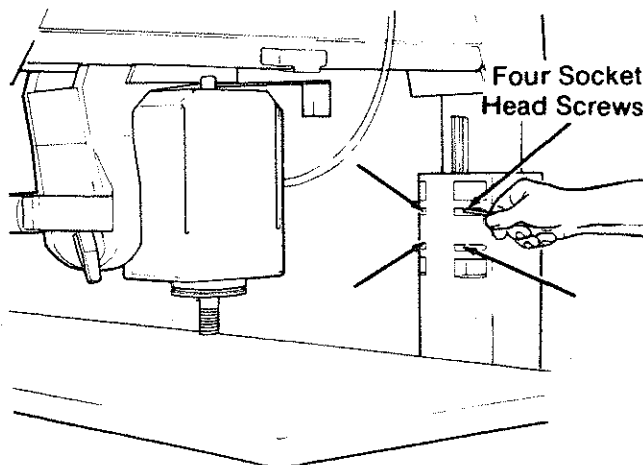

Fig. 105
11. Find the four screws in front of the column support (Fig. 105). Use a 3/16 hex "L" wrench to adjust these screws as described below.